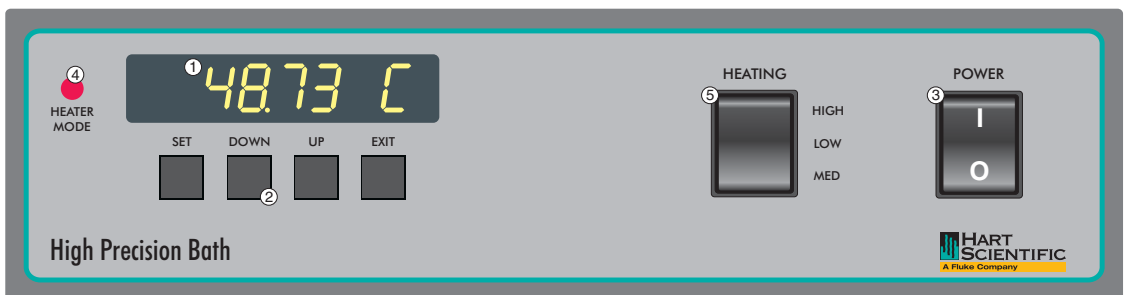

Figure 1 Front Panel Features
The following controls and indicators are present on the controller front panel (see Figure 1 below): (1) the digital LED display, (2) the control buttons, (3) the bath on/off power switch, (4) the control indicator light, and (5) the heater power switch.
(1) The digital display is an important part of the temperature controller because it not only displays set and actual temperatures but also various bath functions, settings, and constants. The display shows temperatures in values according to the selected scale units °C or °F.
(2) The control buttons (SET, DOWN, UP, and EXIT) are used to set the bath temperature set-point, access and set other operating parameters, and access and set bath calibration parameters.